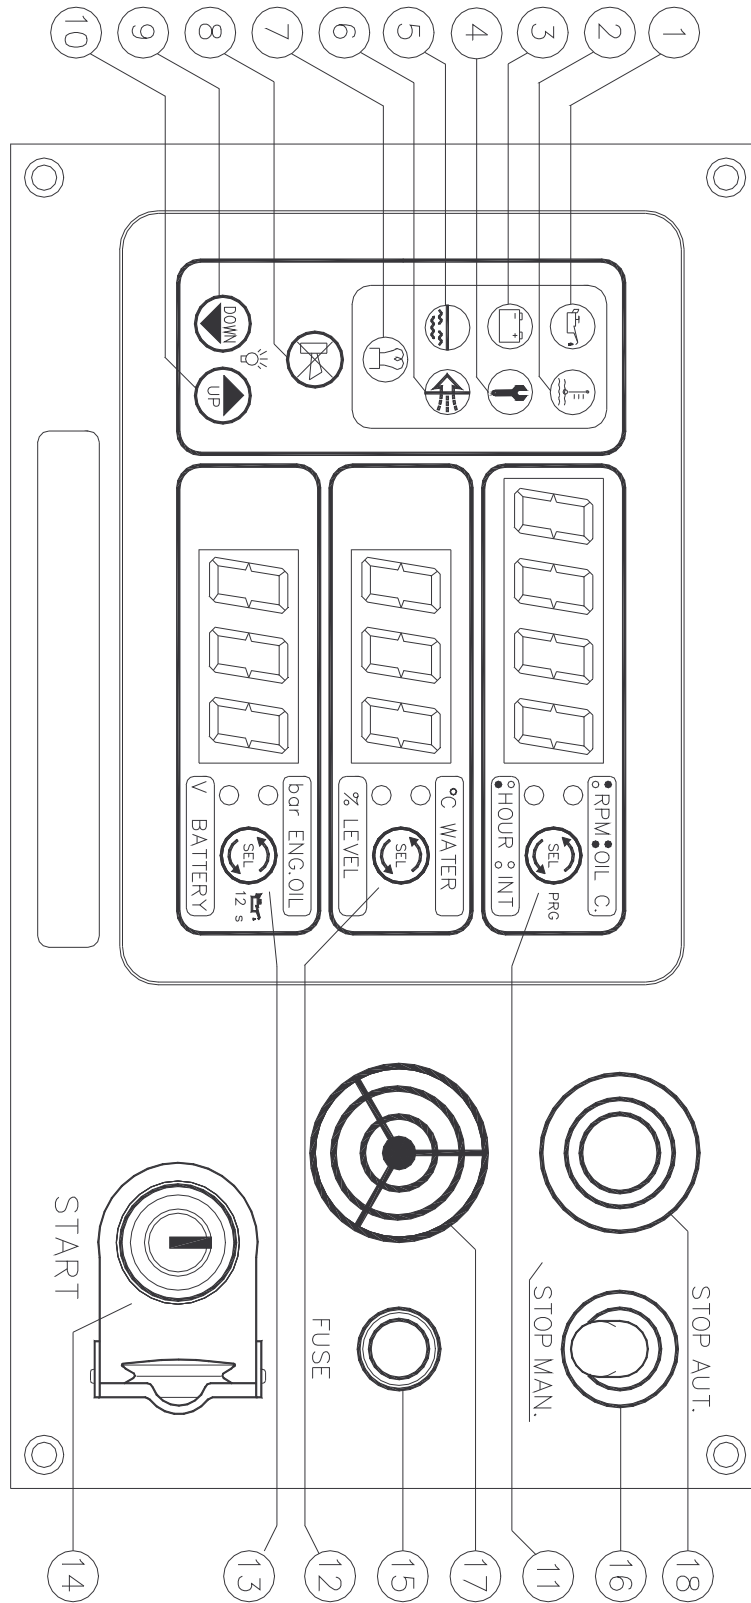

Fig. 1 - CM2A/3A panel
4. ALARMS, SIGNALS AND COMMANDS (Fig.1: CM2A/3A)